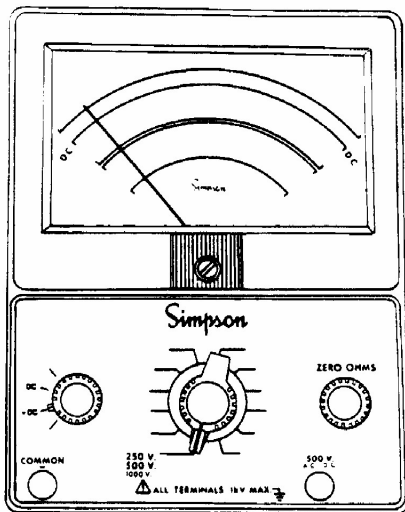

FIGURE 4-2. JACKS AND SWITCH POSITIONS FOR MEASURING DC VOLTAGE, 500 V RANGE
- Set the function switch at +DC (Figure 4-2).